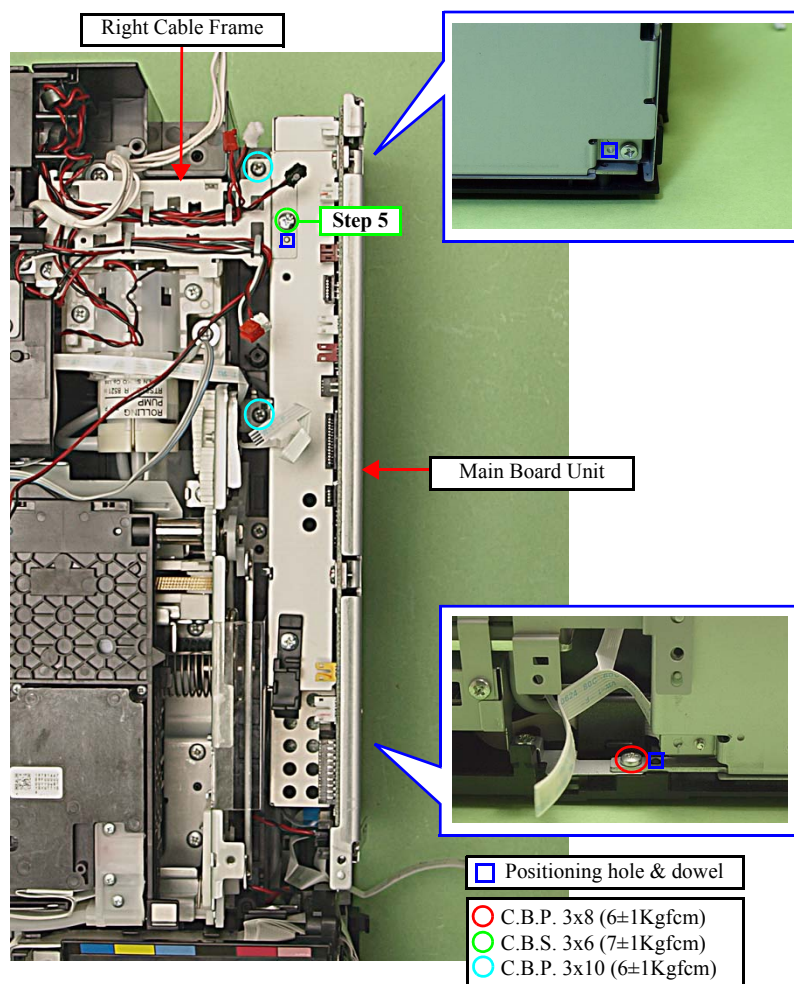
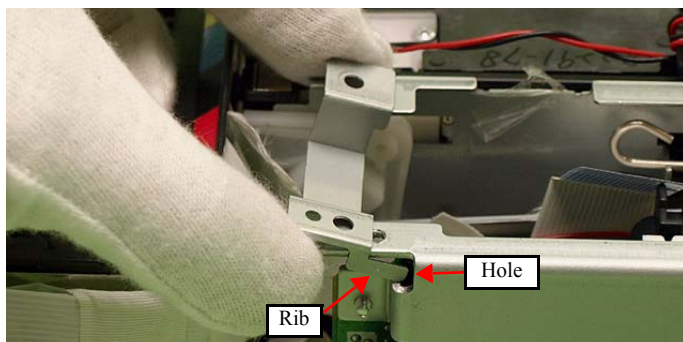

Figure 4-232. Removing the Main Board (1)
Figure 4-235. Attaching the Grounding Plate M/B
- Align the positioning holes (x2) of the Main Board Unit with the dowels (x2) of the Base Frame. (See Fig. 4-232.)
- Align the dowels (x2) of the Main Board Unit with the positioning holes (x2) of the Right Cable Frame. (See Fig. 4-232.)
- Insert the rib (x1) of the Grounding Plate M/B to the hole of the Main Board Unit, and align the positioning hole (x1) of the Grounding Plate M/B with the dowel (x1) of the Main Board Unit, and attach the Grounding Plate M/B. (See Fig. 4-232, Fig. 4-235.)